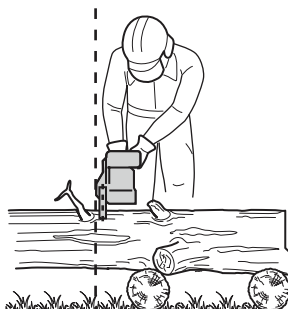

Fig. 29
- > Only use the product with a secure stance. Hold the product to the right-hand side of your body (Fig. 29).